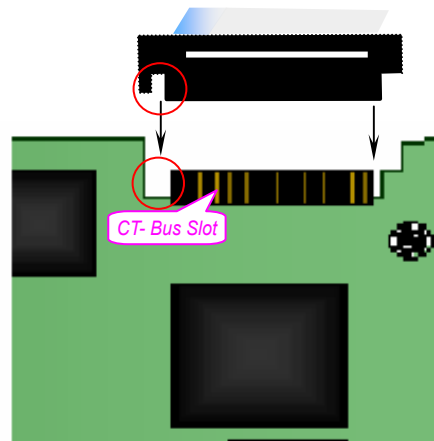

Figure 2-6 Connection of H.100 Bus
- 1) See Figure 2-6 for correct insertion. Do not twist or insert in the opposite direction.